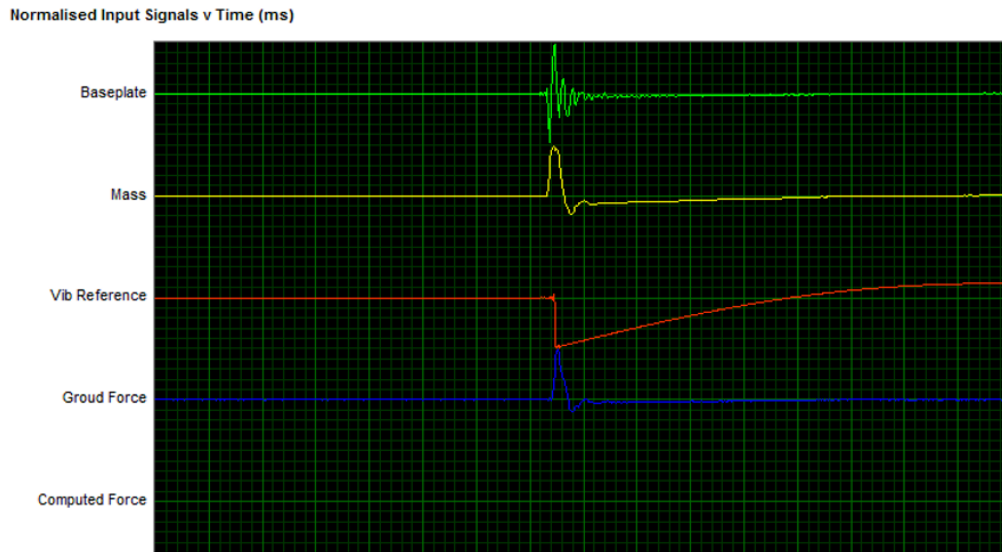

Figure 2 – Typical Pulse Test using INOVA Accelerometers
3.2 In this test the phase relationship of VibReference 、 MASS ACC 、 BP ACC、 Ground Force as Figure 2 showing.